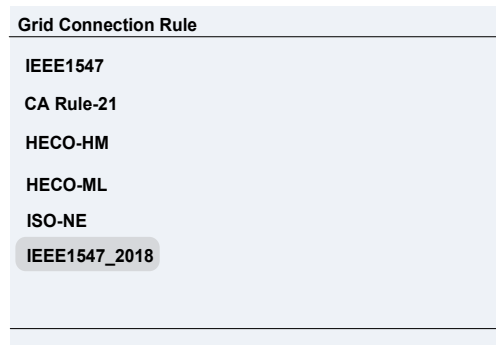

Figure 7-5 GRID CONNECTION RULE
- (1) **LANGUAGE SETTING:** Two languages, i.e. English and Chinese is available in **LANGUAGE** menu.
- (2) **GRID CONNECTION RULE:** There are multiple grid standards. Press **▲** and **▼** to select the corresponding grid standard required for the installation and press the **ENT** key to confirm the selection as shown in Figure 7-5.